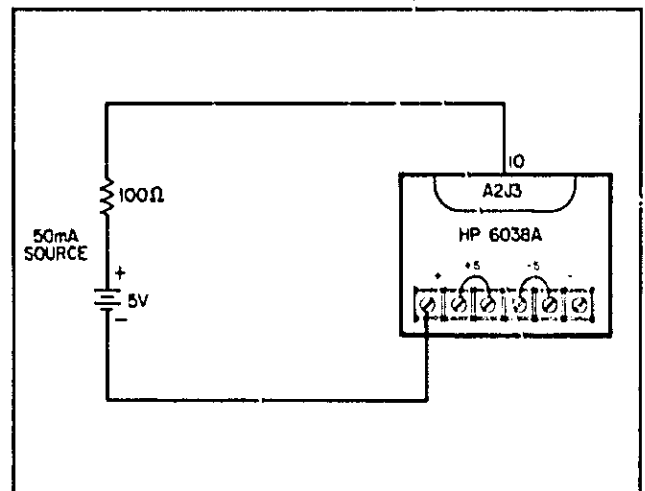

Figure 5-2. Remote Readback Zero And CV Zero Calibration Setup
- a. Connect an external supply to the power supply as shown in Figure 5-2.
- b. Connect an external supply to the power supply as shown in Figure 5-2.